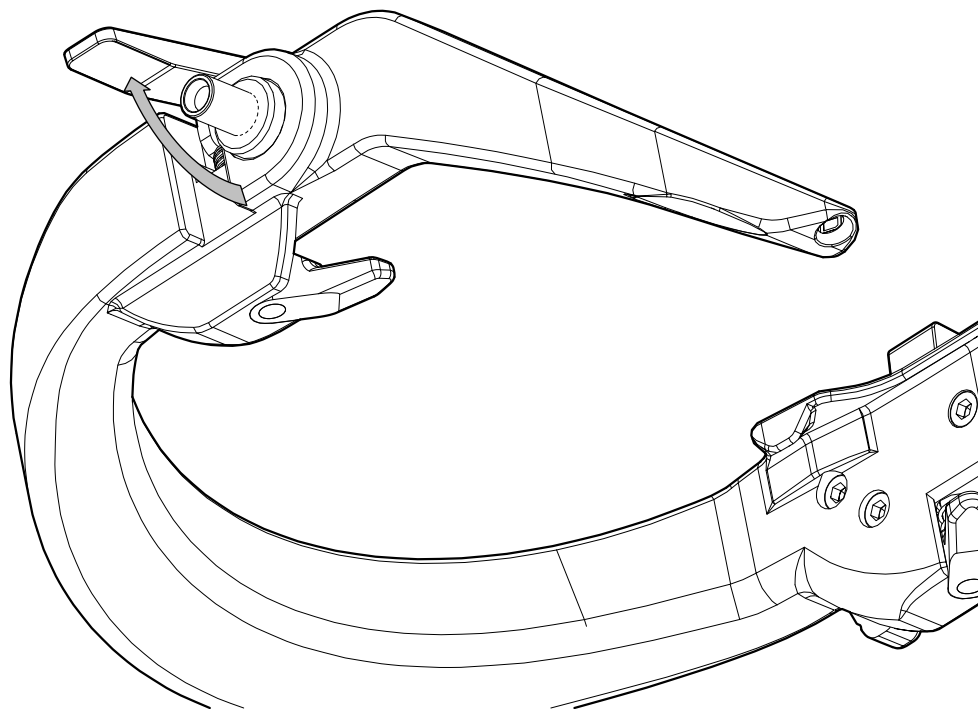

Figure 6.15 Open the latch
- 4 Open the latch, see Figure 6.15.